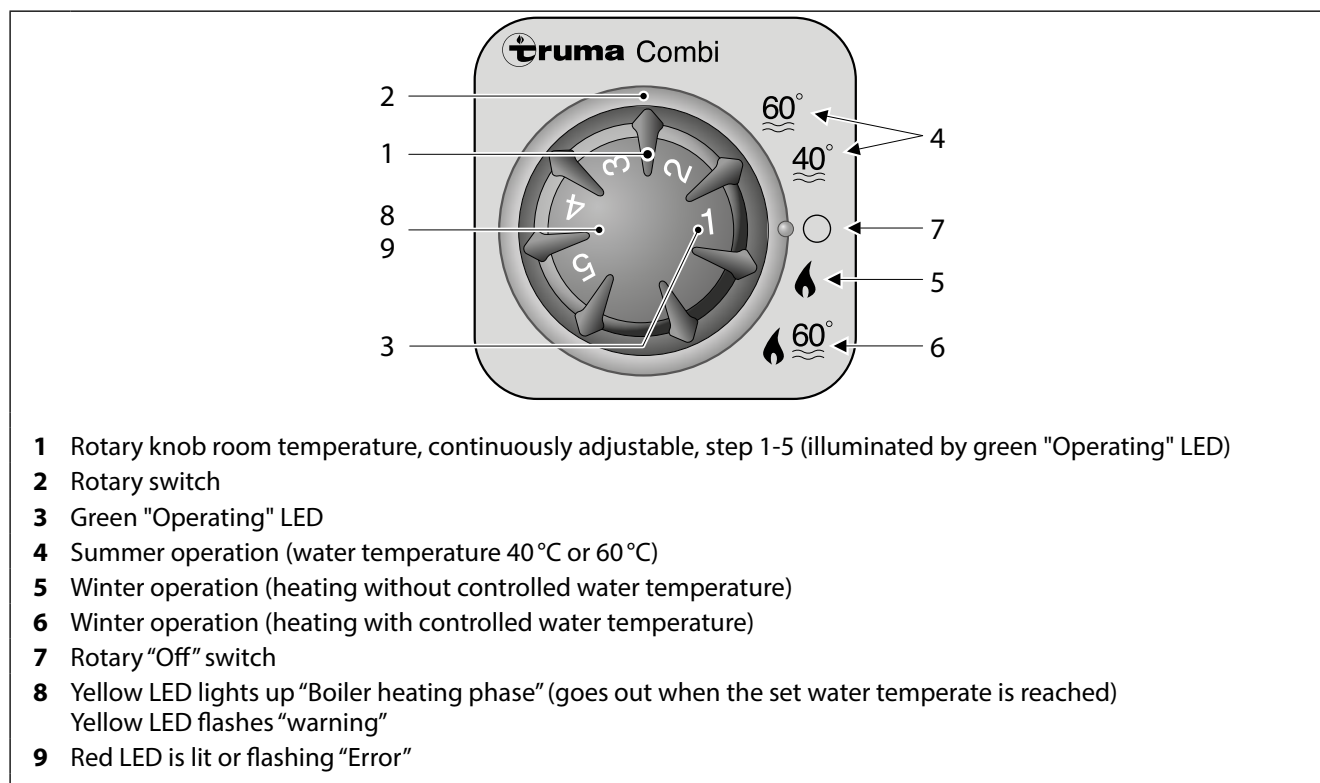

Fig. 58 Control element CP classic
If one of these operating modes is activated, the green LED behind the rotary knob (Fig. 58, item 1) will light up.
1. Set the rotary switch (Fig. 58, item 2) to the desired water temperature of 40 °C or 60 °C (Fig. 58, item 4).
When the set temperature is attained, the heating element will switch off and the yellow LED (Fig. 58, item 8) will go out. The burner operates at the lowest burner setting.
1. Turn the rotary knob (Fig. 58, item 2) to position 6.
2. Turn the rotary knob (Fig. 58, item 1) to the desired thermostat setting of 1 – 5 for the room temperature.
The green LED (Fig. 58, item 3) lights up and displays the position of the set room temperature.
After attaining the room temperature selected, the burner switches to the lowest setting and heats the water in the boiler to 60 °C. The yellow LED (Fig. 58, item 8) indicates the heating phase; this goes out when the water temperature has been achieved.
1. Turn the rotary knob (Fig. 58, item 2) to position 5.
The green LED (Fig. 58, item 3) lights up and displays the position of the set room temperature. After attaining the room temperature selected, the heating switches off.
When the boiler is filled, the water is heated automatically as well. The yellow LED (Fig. 58, item 8) only lights up at water temperatures below 5 °C.
1. Turn the rotary knob (Fig. 58, item 2) to the ○ position.